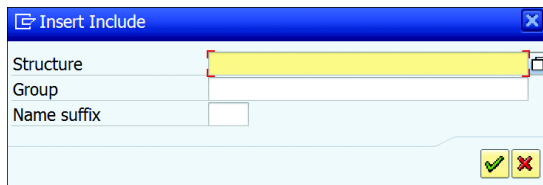

Figure 10.30 Insert Include Window
2. In the INSERT INCLUDE window shown in Figure 10.30, enter the name of the STRUCTURE. Optionally, you can input a GROUP name and NAME SUFFIX. If the group name is provided, the components of the structure can be addressed from programs once or individually using that group name. If the name suffix is provided, the fields of the structure will be suffixed with the entered value to avoid any naming conflicts with the existing fields of the table.